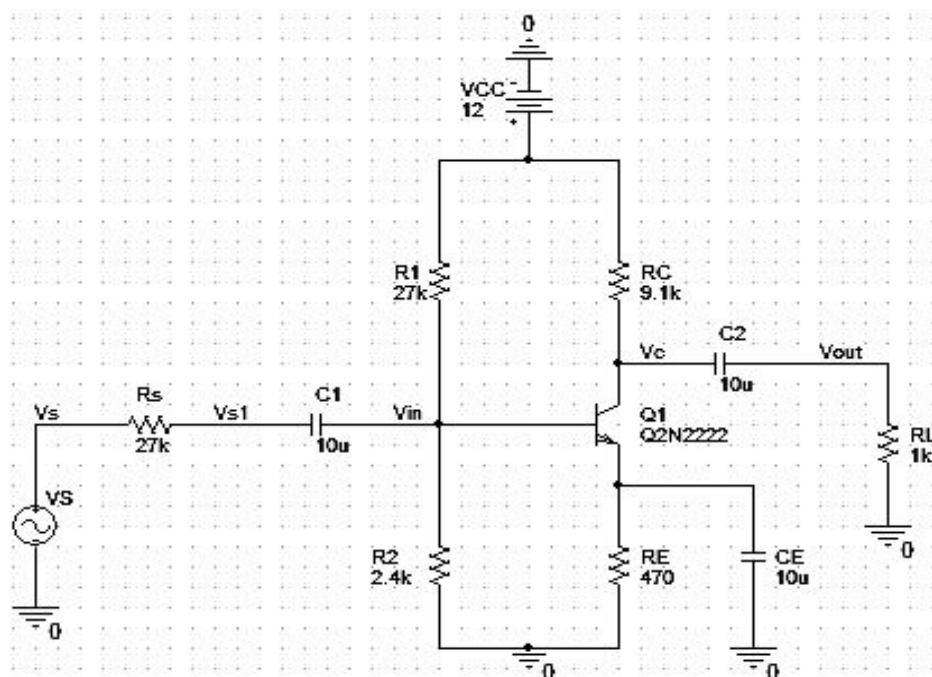

Figure 2: BJT Common Emitter Configuration
9. Connect the BJT amplifier in the common-emitter configuration as shown in figure 2. Connect the Function Generator to the input of the amplifier (node V_s) and adjust it to generate a sinusoidal signal at a frequency 10 kHz and amplitude 100 mV.
1. Carry out the hand analysis for the common emitter amplifier shown in figure 2. Compute the DC operating point, the model parameters, the voltage gain in dB, the input resistance and the output resistance.
2. Using the ORCAD Simulator, simulate the common-emitter amplifier of figure 2. Carry out the Bias-point analysis to get the operating point of the amplifier . From the ORCAD output file present detailed information about the transistor's model and parameters.